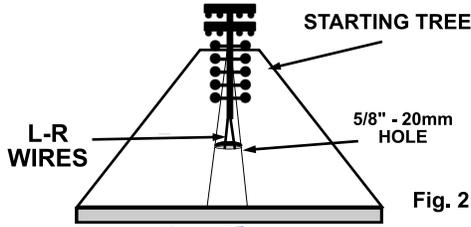

Fig. 2
3. Next position and mount your Starting Tree/Display on your layout by carefully drilling a small 5/8" - 20mm hole in your Track. If setting up on a larger track, run wires as needed. (If using the Formula Display you will ONLY use the LEFT Side plugs on the Main DIA unit.) Push the 6C6P connector one at a time through the hole to be connected to the DIA TREE SHIELD. Note the Right and Left side connection, if lights display wrong just switch connectors. Fig. 2